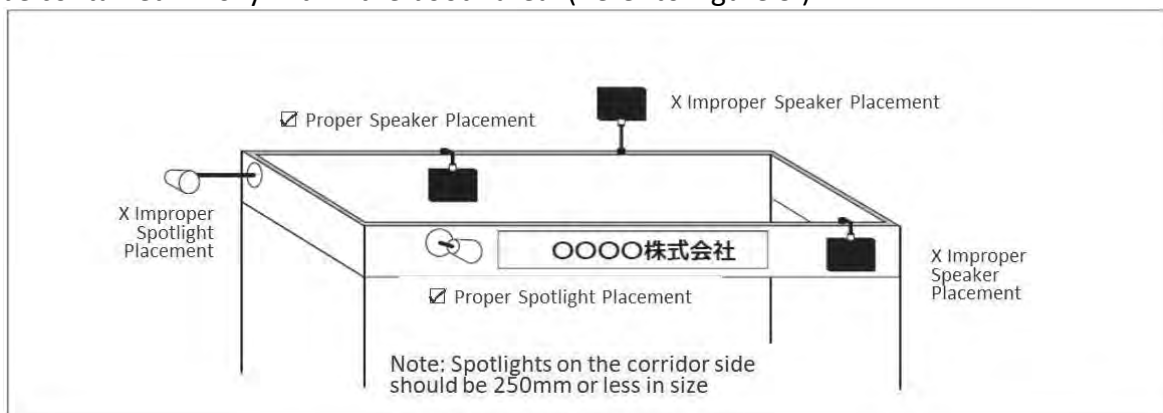

Figure 3. Examples of Proper and Improper Placement of Speakers and Spotlights
- All speakers, spotlights, borders, company signs, etc. must be installed according to exhibition guidelines and must be contained wholly within the booth area. (Refer to Figure 3.)